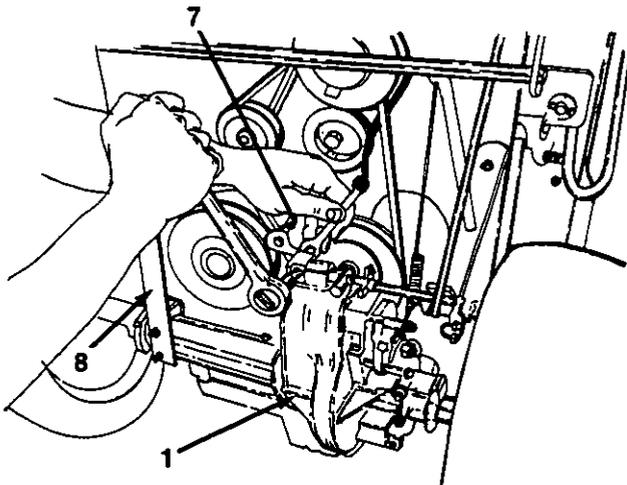

FIGURE 3.
5. Remove the torque rod bracket located on the top, front of transaxle, held by one hex bolt, lock washer and hex nut. See figure 3.